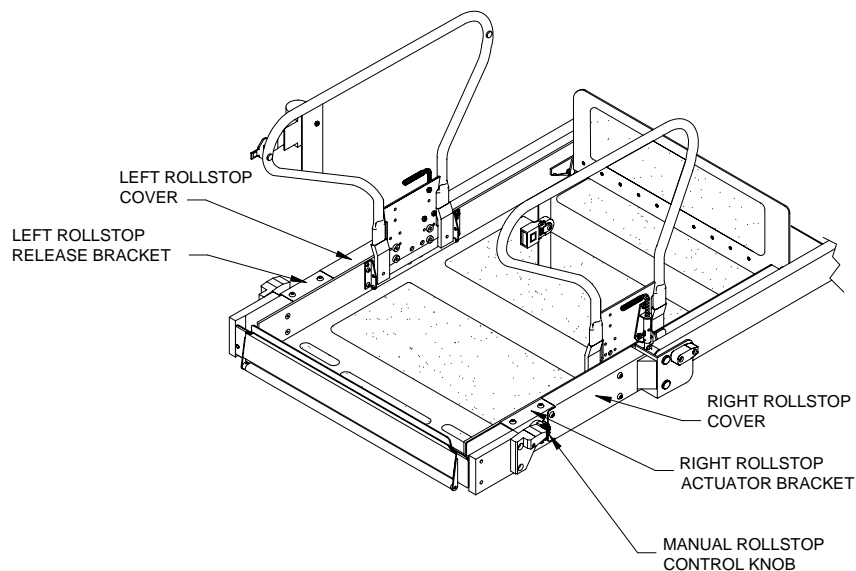

FIGURE 4-3: ACCESS COVERS FOR ROLLSTOP MECHANISM
- 3) Refer to **Figure 4-3**. Remove left and right rollstop covers (four screws and washers, each side).